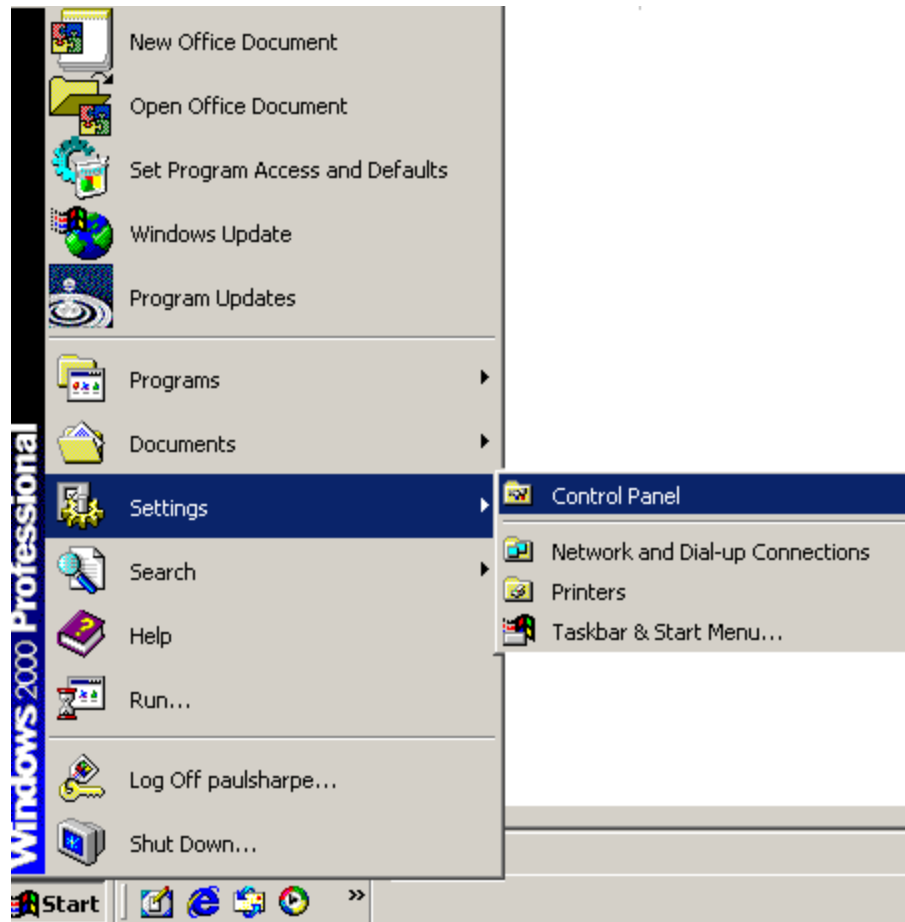

Figure 7-3: Access Windows Control Panel
**Step 1:** Open **Windows Control Panel** (Figure 7-3).